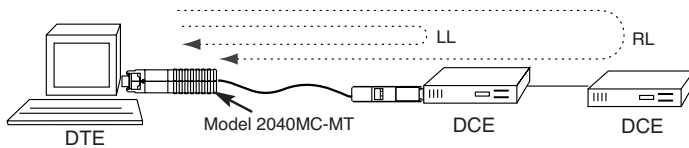

Figure 10. Local Loopback and Remote Loopback Modes
The Model 2040 supports two loopback modes that may be used to evaluate the condition of the communication links. These modes, (Local Loopback (LL) and Remote Loopback (RL)), are always **initiated by the signals on the DTE device** (See Figure 10). This section describes both loopback modes.